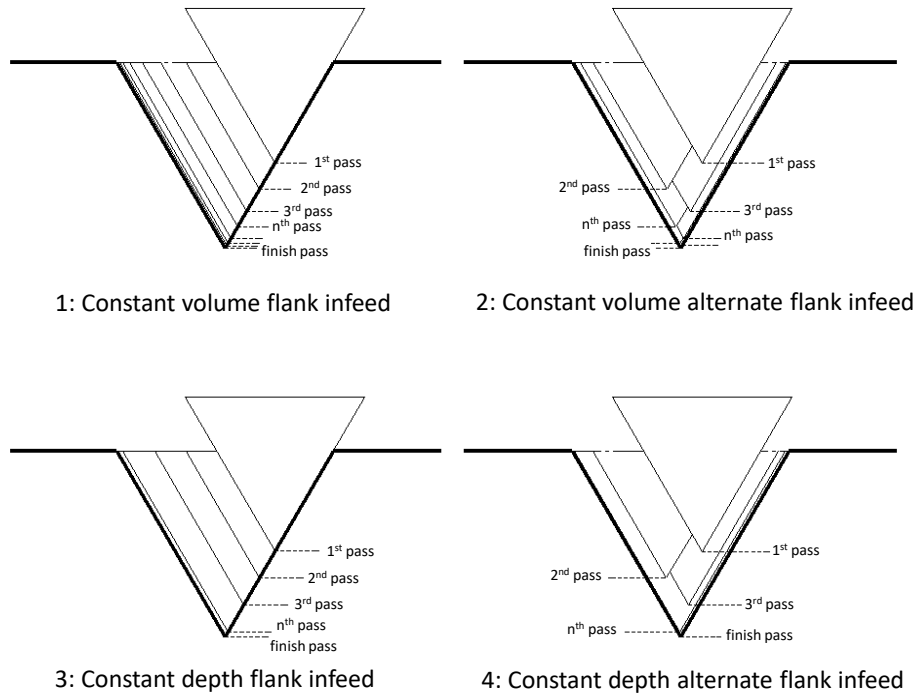

Figure 76-1: Threading infeed types
- P: Infeed type. There are 4 possible infeed selections, 1 to 4. The 4 options are combinations of two infeed types and two depth of cut types. The two infeed types are flank and alternate flank, see figure 76-1. In the flank infeed mode each depth of cut moves down at the angle for the thread, following the trailing flank of the tool. Alternate flank changes from leading to trailing flank for each pass. The two depth of cut types are constant volume and constant depth. In constant volume the depth of cut will get smaller (down to the minimum specified by Q) for each pass to maintain a constant volume of material being removed. This is usually better for tool life and thread quality. Constant depth is just that. Each depth of cut is the same down to the finish allowance.
See Figure 76-1 for a diagram of the infeed types.